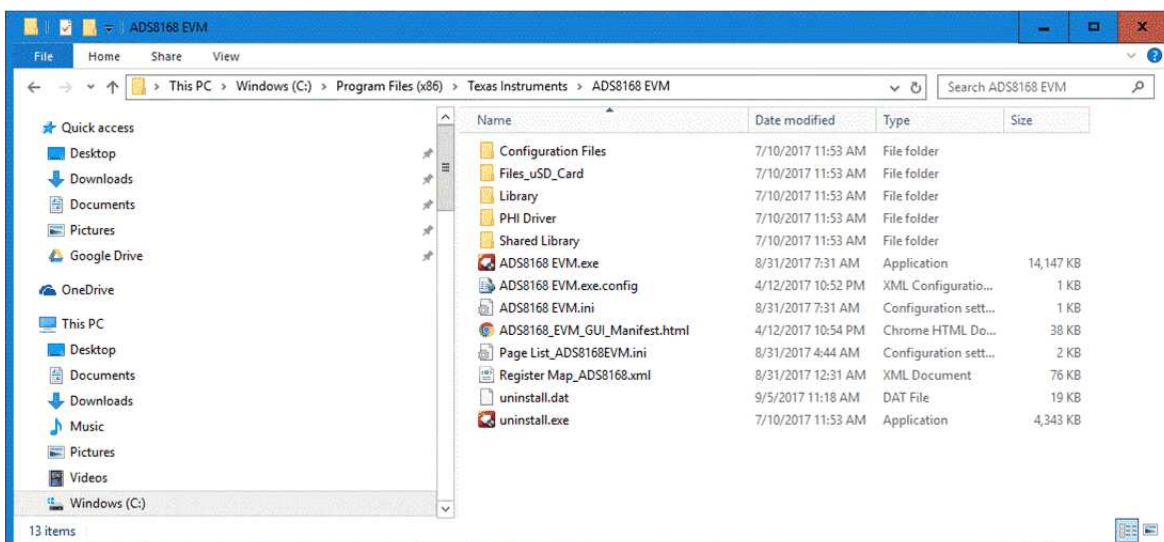

Figure 11. Launch the ADS8168EVM GUI Software
3. Double click on the ADS8168 EVM.exe file to launch the EVM GUI, as shown in Figure 11.